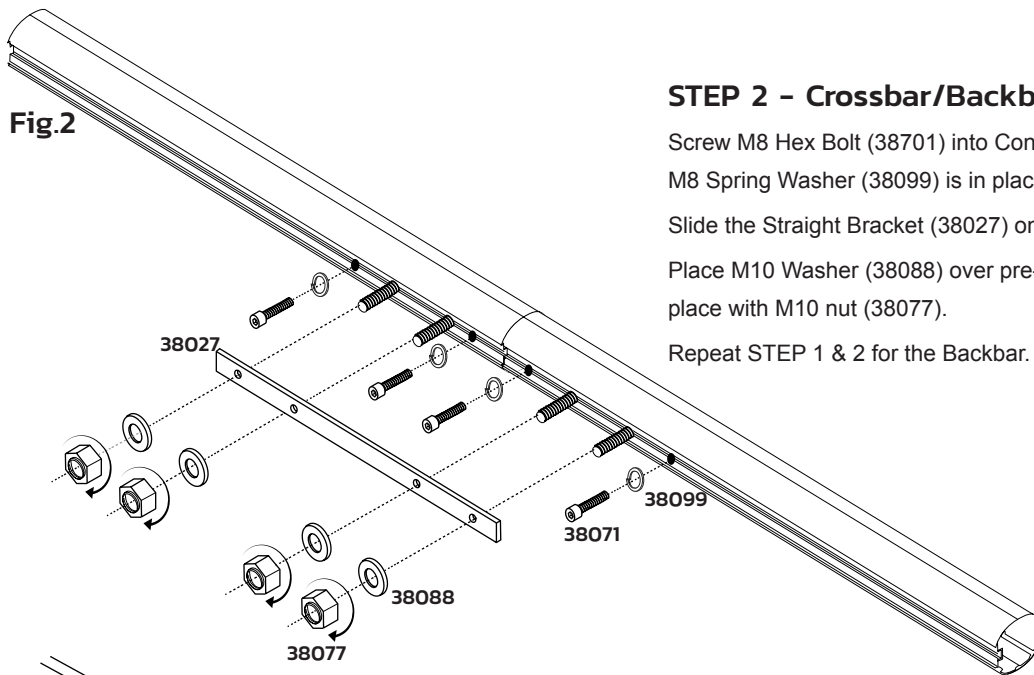

Fig.2
STEP 2 - Crossbar/Backbar (Fig. 2)